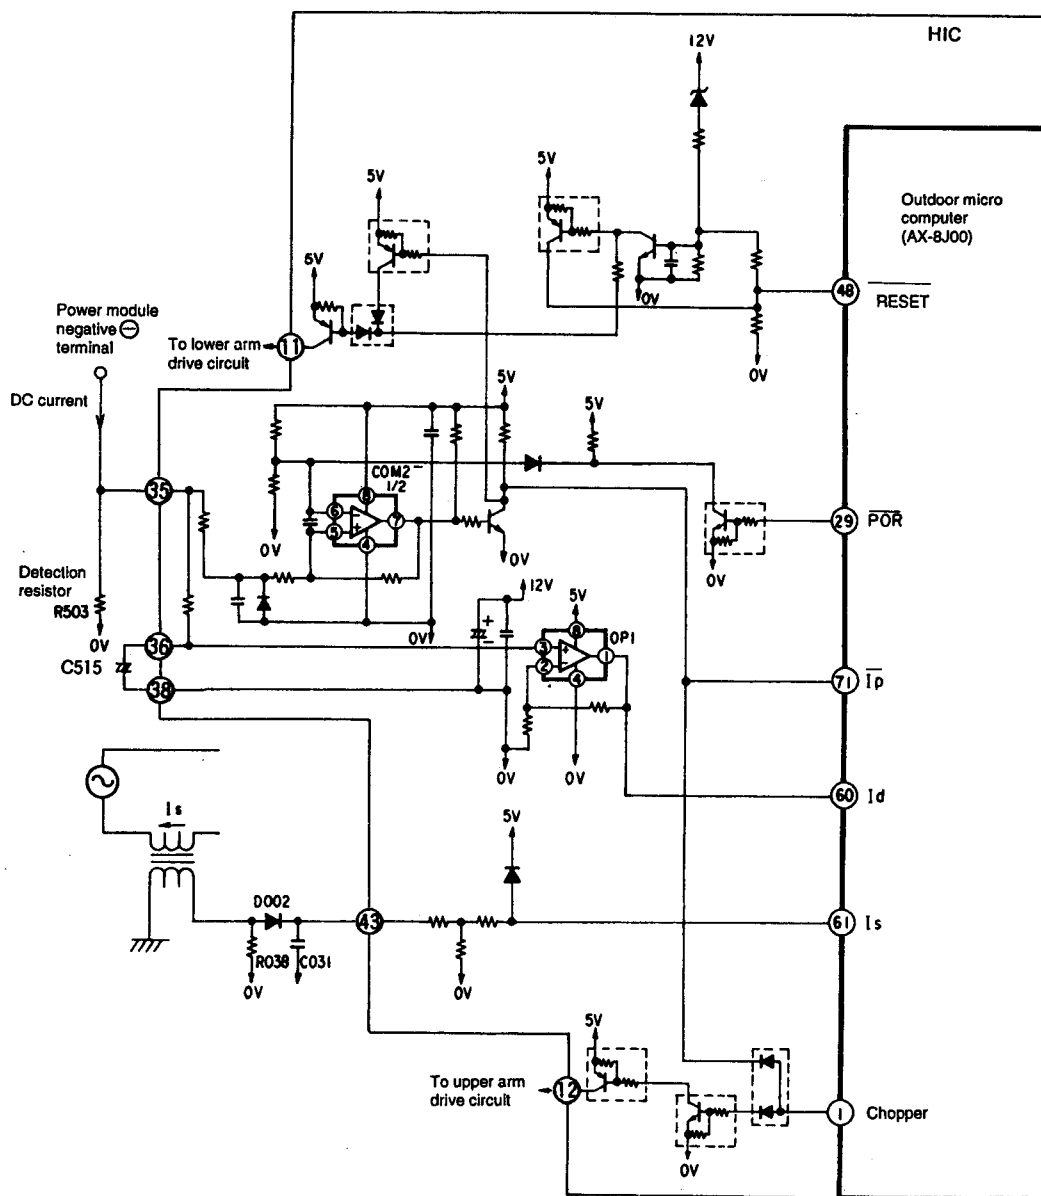

Fig. 8-1 Micro computer (AX-8J00) and Peripheral Circuits
- Fig. 8-1 shows the micro computer and its peripheral circuits, Table 8-1, the basic operations of each circuit block, and Fig. 8-2, the system configuration.